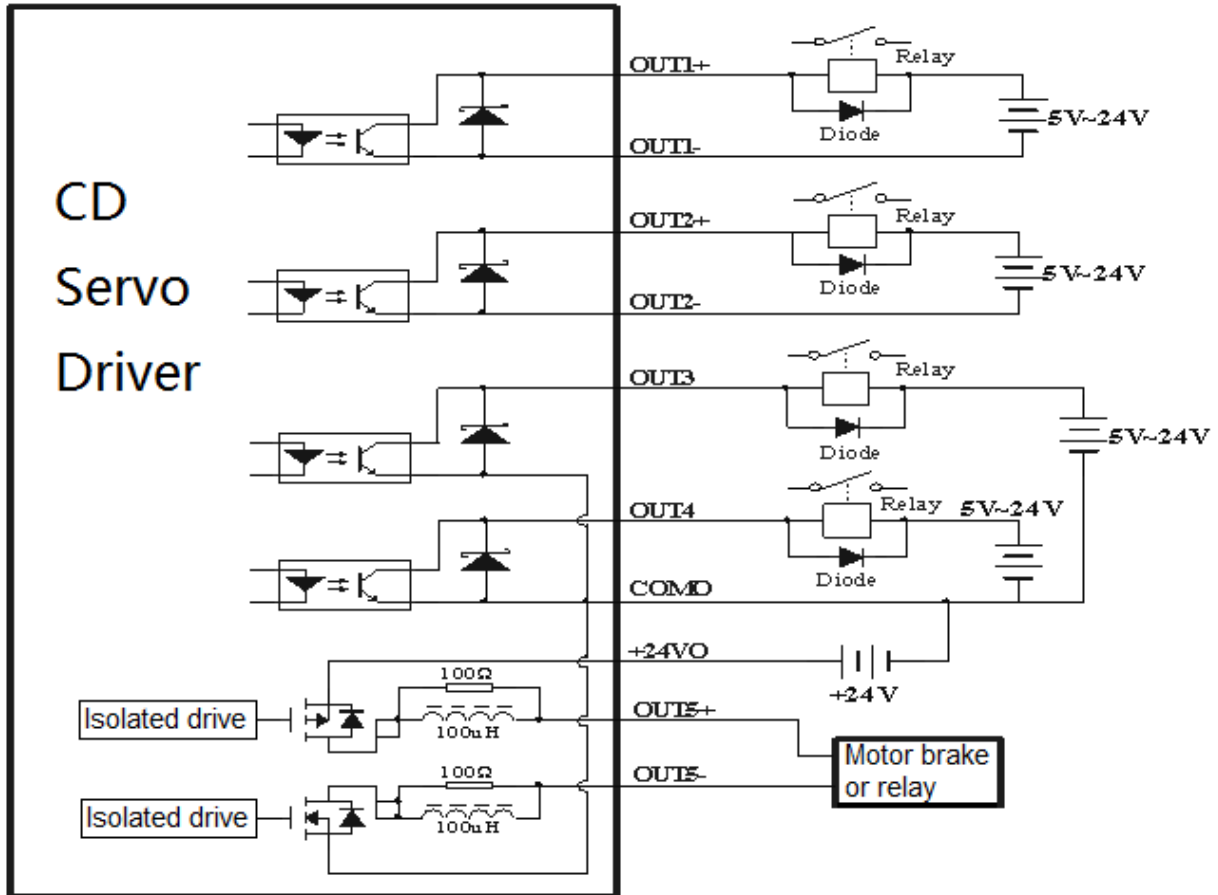

Fig. 6-7 Connect a relay to the digital output port (Reverse parallel connect diode)
- To connect a relay to the digital output port, do remember to connect a diode in inverse parallel, as shown in Fig. 6-7.